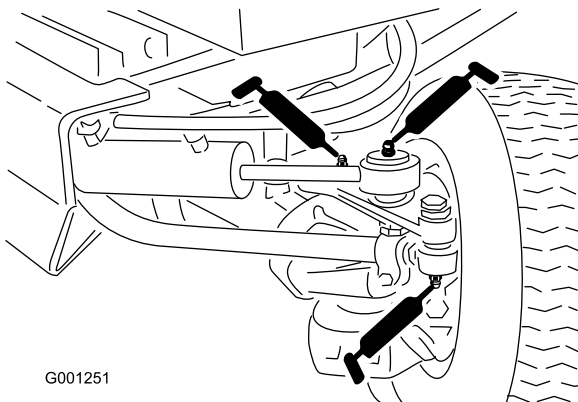

Figure 14
- Tie rod ends (2) (Figure 14)